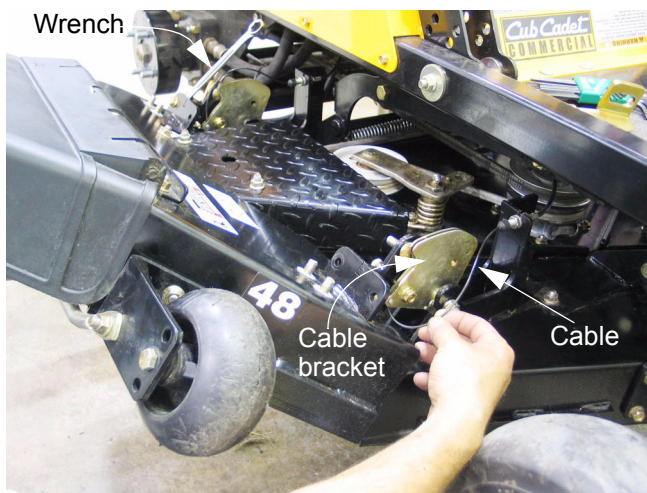

Figure 11.5
11.5. While the earlier cable brackets can simply be unbolted with the cable attached, the torsion spring on the revised cable brackets makes them easier to remove if the cable is first disconnected. See Figure 11.5.